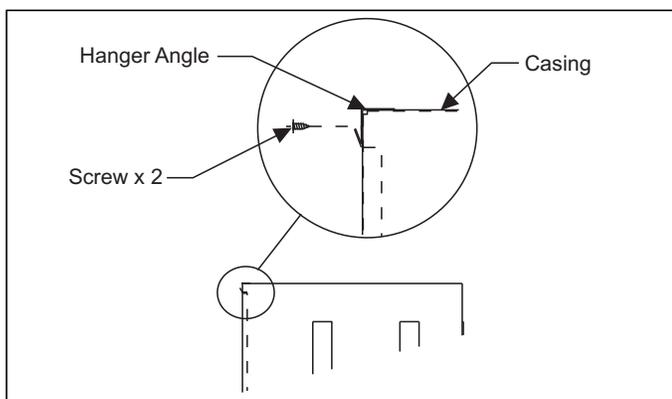

FIGURE 10: Hanger Angle Attachment
6. Remove two (2) screws that are on the front of the unit at the top. Obtain front panel hanger angle from the upflow kit 3500-7211/A. Secure the hanger angle with two (2) screws removed from the furnace casing. See Figure 10.